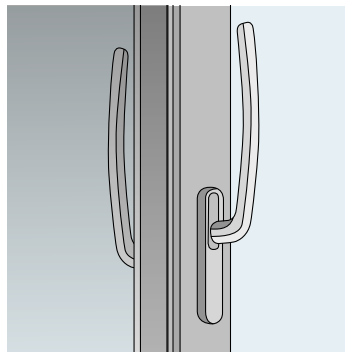

Figure 4
5. Turn the handle to the closed position again (figure 4).